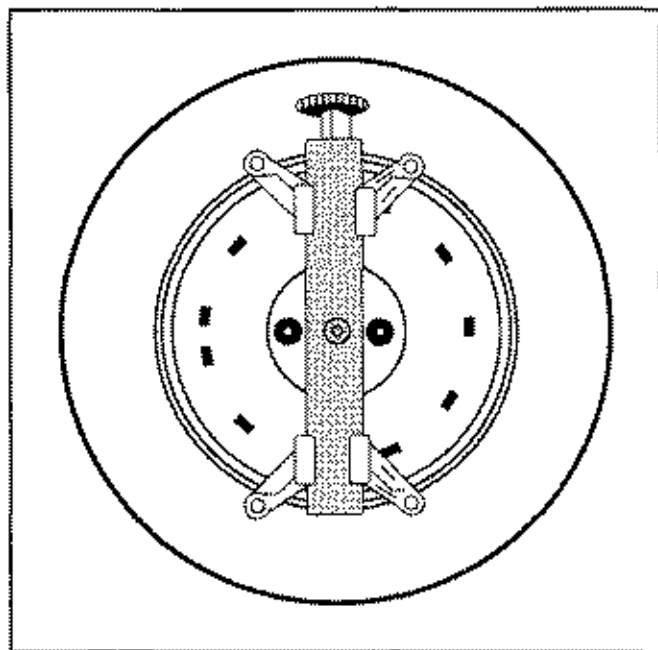

Figure 1-8
1. To attach a clamp to a wheel, position the large black knob toward the top of wheel (see Figure 1-8). Set the lower hooks against the wheel rim (or hook them around the bottom edge of the rim, depending on which hooks are used).